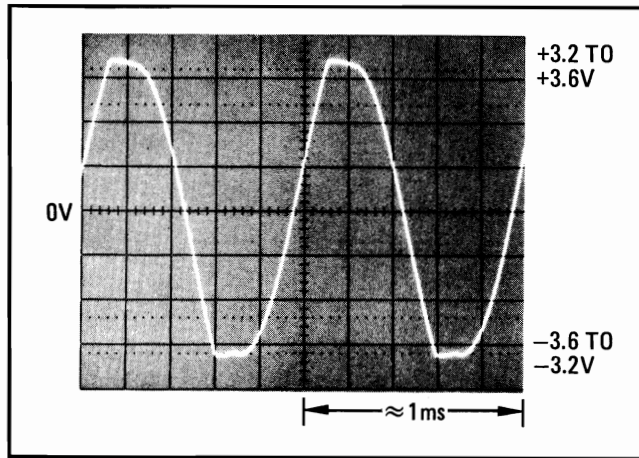

Figure 8-82. Oscillator Leveling Check Waveform F
11. Connect the oscilloscope to pin 1 of U12A. The waveform should be as shown in Figure 8-82.